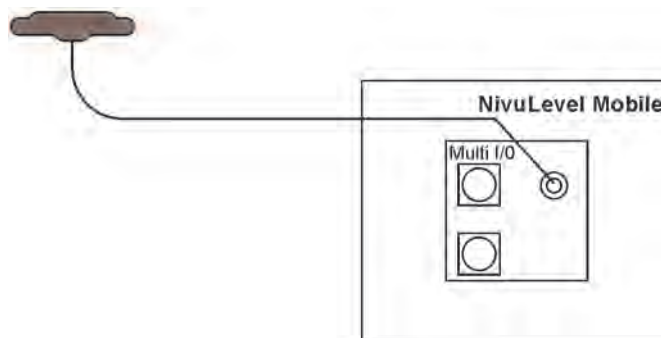

Fig. 27-1 Connecting the 2G/3G/4G Antenna
1. Plug the antenna cable into the socket on the unit (Fig. 27-1) and tighten the screw connection manually.